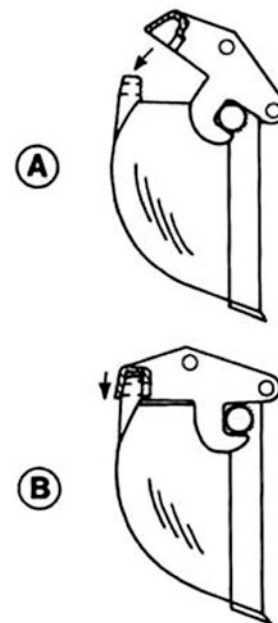

Figure 3-14. Installing attachments.
1. Insert the hook onto the attachment's cross member (fig. 3-14, view A).
2. Extend the bucket cylinder until the rear connector engages the aligning bearing (fig. 3-14, view B).